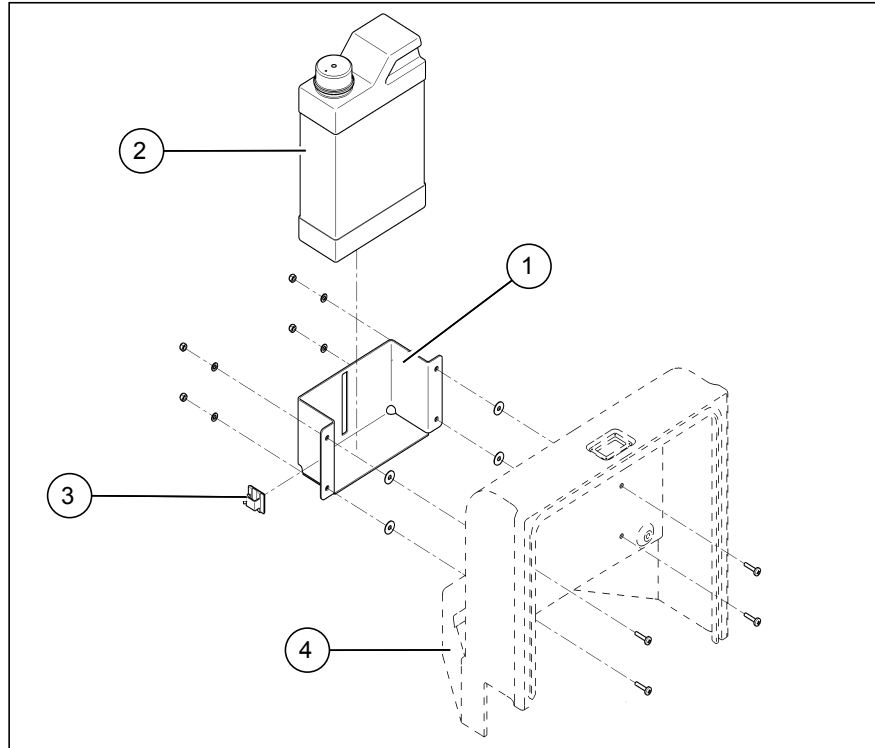

Fig. 1
1. Assemble the holder (Fig. 1/1) of the canister (Fig. 1/2) to the electrical box cover (Fig. 1/4) using hexagon bolts, nuts and washers.
2. Mount the cable clip (Fig. 1/3) on the holder (Fig. 1/1).
3. Insert the canister (Fig. 1/2).
1. Open the electrical box cover (Fig. 1/4).